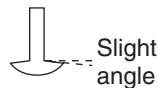

Figure 4. Axle head detail.
- File the inside of the head at a slight angle so the wheel will only contact the head right at the shaft of the axle, see figure 4.